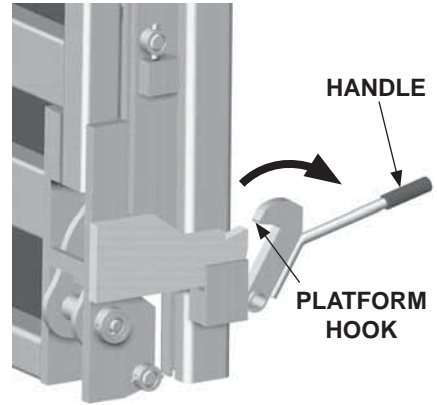

FIG. 15-1
3. Use handle to unhook platform (**FIG. 15-1**). Continue with step 4 to unfold platform.